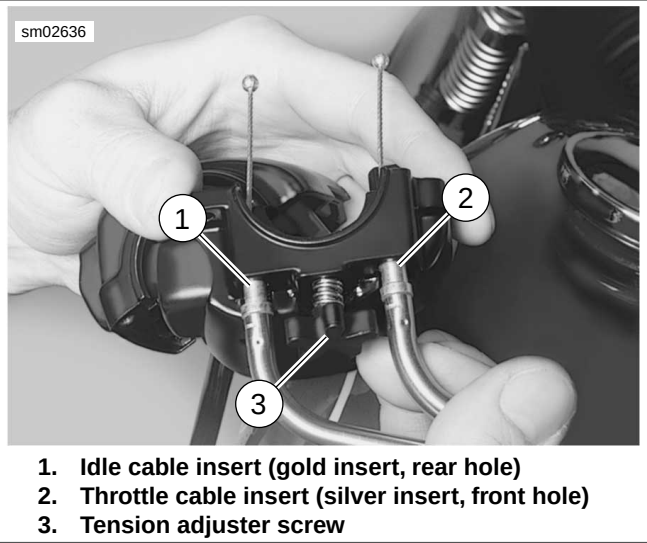

Figure 6-147. Right Lower Switch Housing
1. See Figure 6-147. Push the throttle and idle control cables into the lower switch housing until they snap in place. Note the different diameter inserts crimped into the end of the throttle and idle cable housings.
- a. Push the silver insert (2) of throttle cable housing into the hole in front of tension adjuster screw (3).
- b. Push the gold insert (1) of idle cable housing into the hole at the rear of tension adjuster screw (3).